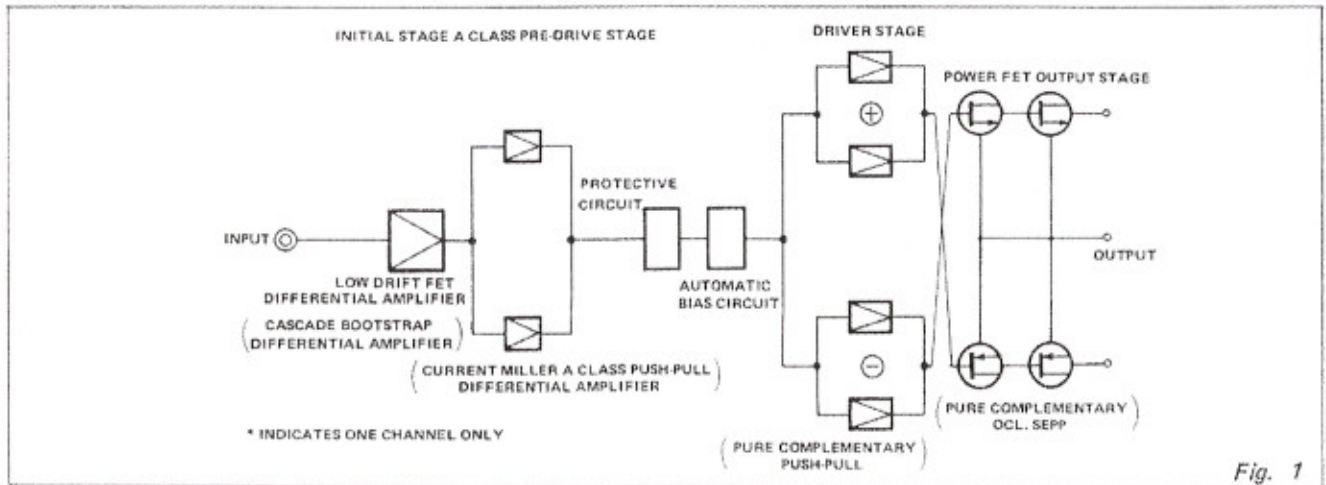

Fig. 1
B-2 is composed of the "FET Differential Cascode Bootstrap Circuit" for its first stage, the "Current Miller Differential Push-Pull Amplifier Pre-Drive Stage", and a "Pure Complementary Symmetrical Push-Pull OCL ALL Stages Direct Coupled DC Amplifier" for its driver stage. (refer Figure 1)
- b. Pull off lever. (refer Figure 1)
- c. Remove power switch by removing screws (3) and (4) shown in Photo 8.
- a. Remove meter by removing screws (5) through (8) and (9) through (12) shown in Photo 8.